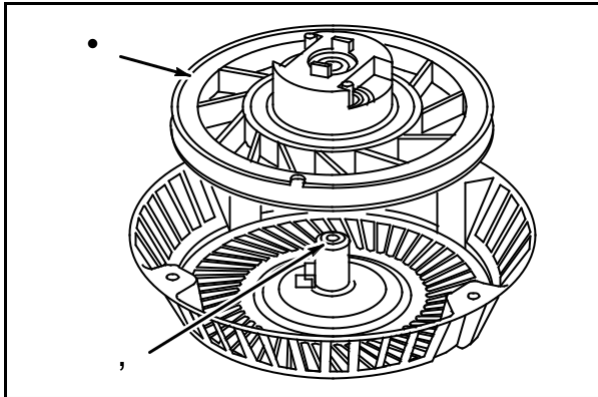

Fig. 60
Assemble starter pulley (1) and spring assembly to center pivot post (2) in housing, **Fig. 60**.